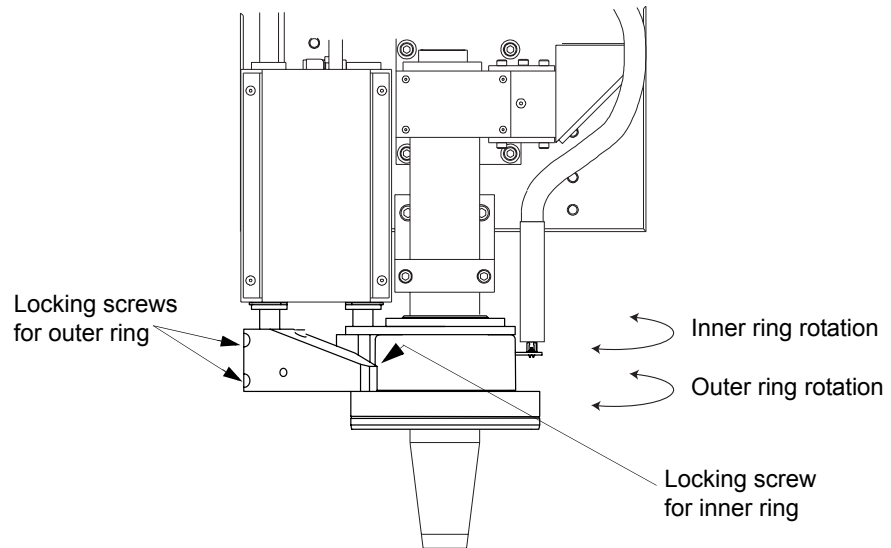

Figure 8-27 Light Assembly Adjustments
12. Align the “points” of the intersecting light rings on the line on the paper parallel to the X axis. This is accomplished by loosening the inner and outer locking screws and rotating the light assembly; refer to Figure 8-27.
18. Observe the light projection on the paper. The center circle of light should be about 2.5 inches in diameter and evenly lit. There should be no “hot” or “cold” spots within this inner circle. If necessary adjust the height of the inner (parabola) ring by loosening the locking screw for the inner ring and moving the ring up or down; see Figure 8-27.